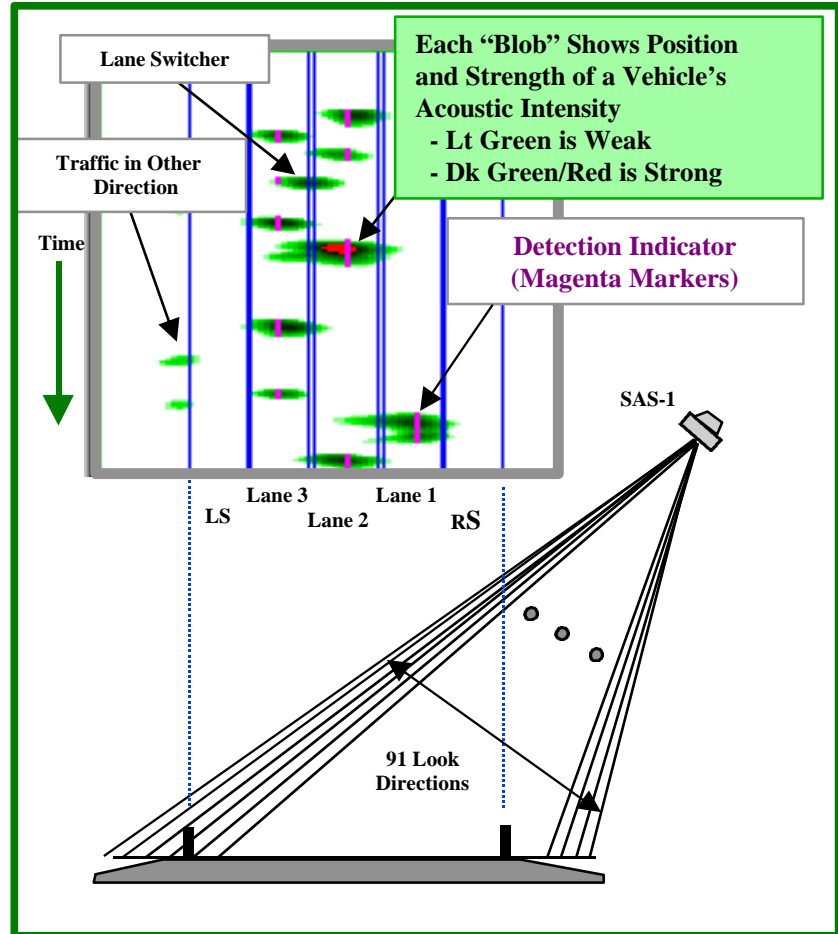

Figure 3 SAS-1 Acoustic “Image” Formation
For **multi-lane highway monitoring**, the SAS-1 is mounted roadside and oriented so that the single listening channel is in the up/down road direction (SAS-1 mounting tube is approximately parallel to the traffic flow) and the 91 listening channels (look directions) are in the cross road direction as shown in Figure 3. In this configuration, the SAS-1 effectively divides the highway (cross road) into 91 look directions from which vehicle sounds may originate. The single up/down road look direction limits the SAS-1's ability to hear sound in the up/down road direction. It therefore, only considers vehicle sounds when the vehicle is passing by the sensor station. As vehicle traffic moves or flows by the sensor station, the SAS-1 processing forms acoustic "images" or "blobs" of high signal intensity. This acoustic "image" is displayed as the Traffic Acoustic Image (TAI) of the SAS Monitor and Setup software running on a laptop PC (Figure 3). Each "blob" represents the acoustic "image" of a vehicle as it passes the SAS-1.
Up to five(5) SAS-1 detection zones are formed by selecting the position and number of contiguous look directions which are combined for actual vehicle detection. This provides the end user with unparalleled flexibility in choosing detection zone sizes and locations. For the example shown in Figure 3, detection zone sizes and placement were selected to correspond to three active lanes and two shoulders. In the TAI display, each pair of Blue Lines represents the left and right edges of each detection zone. The detection zones for this example are chosen to leave little or no dead space. That is, where one zone stops, the next one begins. For this configuration, any lane switcher will be detected and placed in one zone (lane) or the other. In the TAI display, the blue detection zone indicator lines mimic real highway lane divider lines. The SAS Monitor and Setup display also provides the end user with SAS-1 detection indicator marks (magenta) which are placed in the center of each detection zone. These indicator marks provide the installer with instant real time feedback to show exactly how well the SAS-1 is detecting vehicles and what zone (or lane) the detections are assigned to. After setup is complete, the SAS-1 will operate in one of **two(2) default operating modes** as selected by the installer.